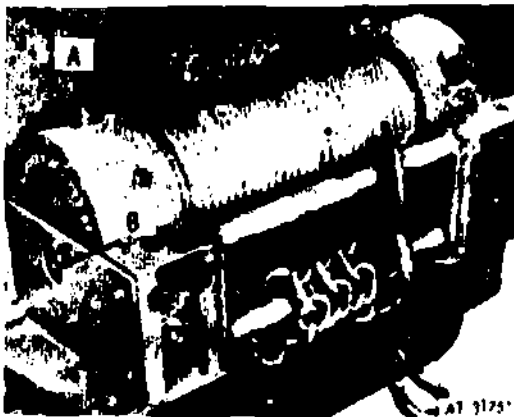

Fig 1-122. Winch worm case, points A + B.
b. Checking lubrication level in winch housing. Figure 1-122 shows the right side of the winch, as if you were sitting in the vehicle. This side contains the winch worm gear. This side uses a GO type lubricant. To check the lubricant level in the winch worm case, perform these steps:
- To fill, remove the combination vent and fill plug (A, fig 1-122) and add the proper lubricant until it starts to seep out at the plug B opening. Then replace both plugs.